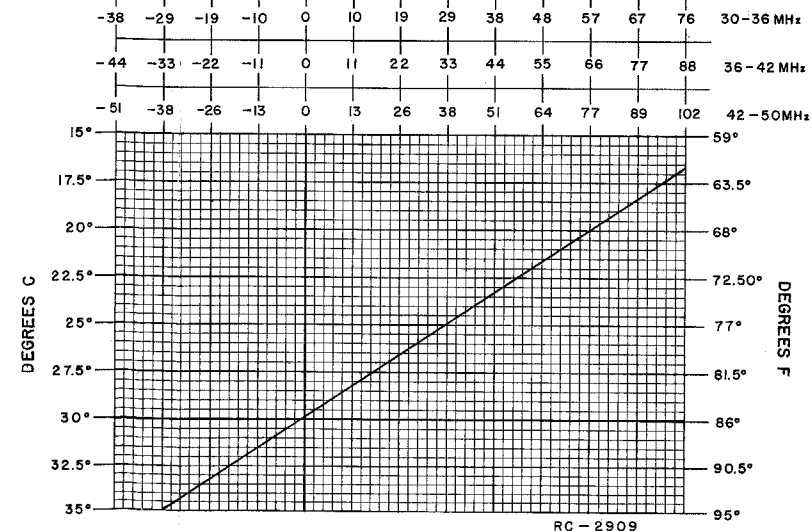

Figure 3 - Frequency Offset Chart
First, check the frequency to determine if any adjustment is required. (Refer to frequency offset chart, Figure 3). The frequency measurement requires equipment with an absolute accuracy that is 5 to 10 times better than the tolerance to be maintained. When adjusting the frequency, the entire radio should be as near as possible to an ambient temperature of 30°C (86°F).
To set crystal frequency using "beat frequency" method, the temperature should be at 30°C (86°F). If the temperature is not 30°C, then offset the "ON FREQUENCY" signal (at the receiver's input), as a function of actual temperature, by the frequency ERROR FACTOR shown in Figure 3.
- Maintain the radio at 30°C (±5°C, -10°C) and offset the oscillator, as a function of actual temperature, by the frequency error shown in Figure 3.